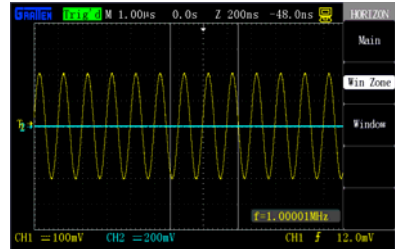

Figure 2-26 Window setup
3. Revolve [s/div] (to regulate the size of the window) and the horizontal [POSITION] (to regulate the position of the window) to select the window of the waveform to be observed, as shown in figure 2-26. The expansion time base cannot be slower than the main time base.